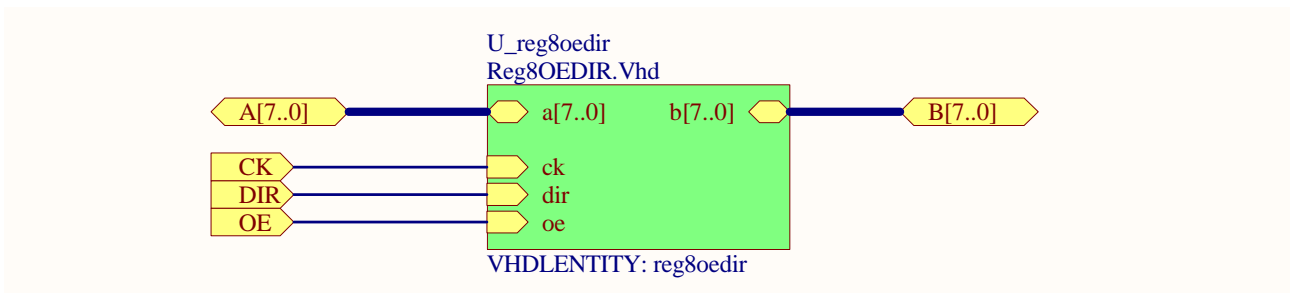

Figure 10: Schematic of the three input latch connected to the decoder
*The schematic from Altium Designer is shown in Figure 10.*